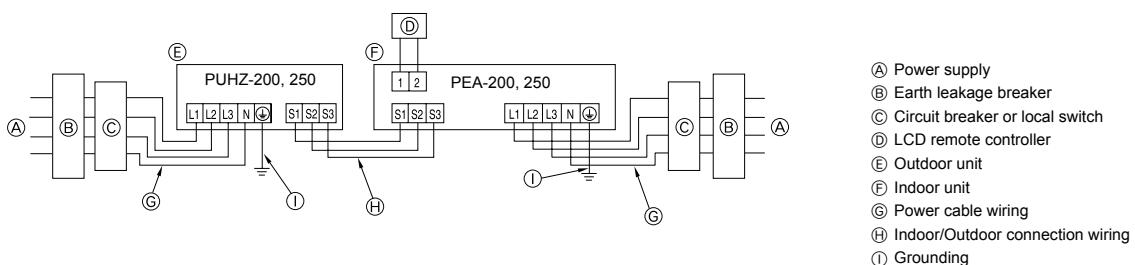
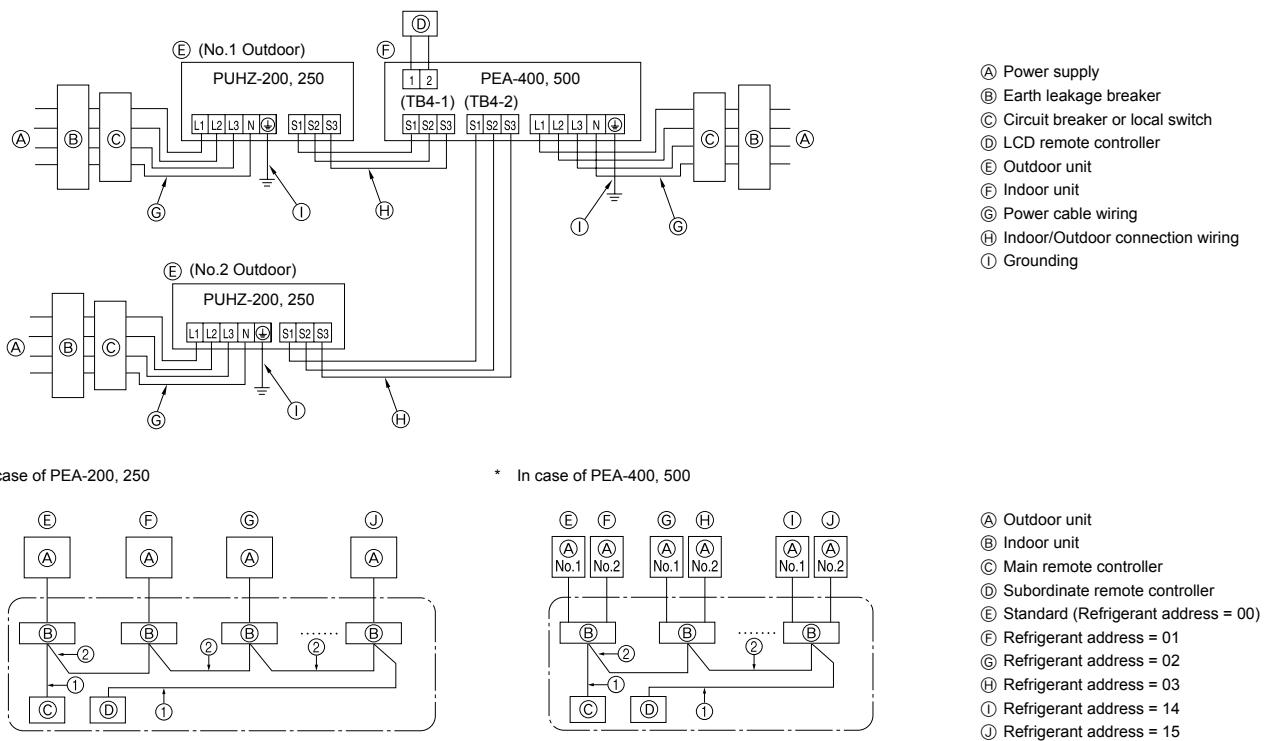

Fig. 6-1
Fig. 6-2
6.1. Outdoor unit (Fig. 6-1, Fig. 6-2)
- (1) Remove the service panel.
- (2) Wire the cables referring to the Fig. 6-1 and the Fig. 6-2.
- (A) Power supply terminal block (L1, L2, L3, N, G)
- (B) Indoor/outdoor connection terminal block (S1, S2, S3)
- (C) Service panel
- (D) Clamp